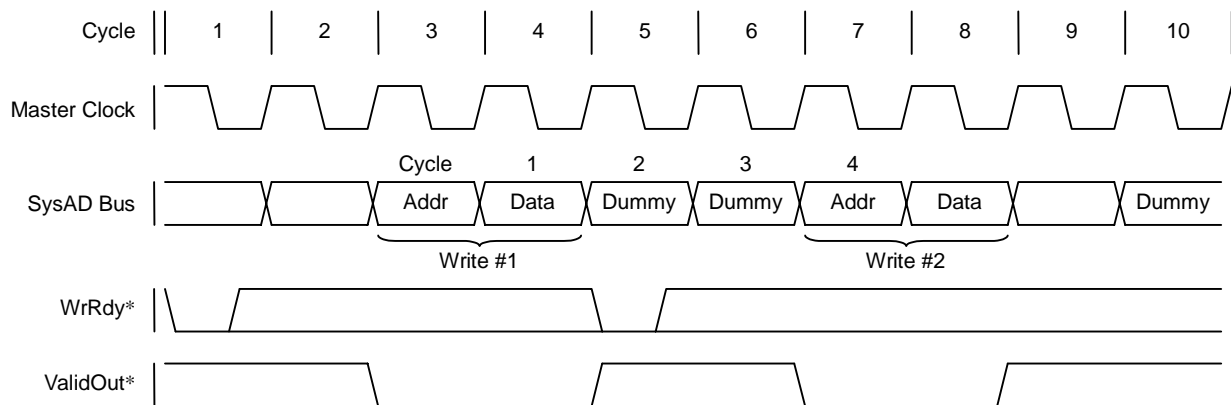

Figure 6.2.6 Timing of Consecutive Write Cycles
- When in the R4000 compatible mode, after a write request is issued, at least 4 cycles must pass from when the write request issue cycle is complete until the processor can issue the next request. This is because two dummy system cycles are inserted as illustrated in Figure 6.2.6 by consecutive write requests of single data cycles.